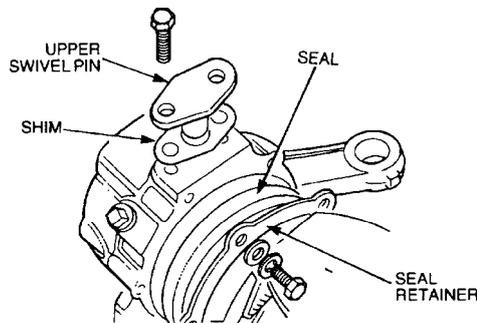

Figure 255 Removing the Swivel Housing Oil Seal
- e. Remove the bolts securing the seal retainer and seal to the swivel pin housing and move the seal away (Figure 255).
- f. Remove the bolts and washers retaining the upper swivel pin, shims and hose retaining bracket (Figure 255) and remove the upper swivel pin and shim(s).